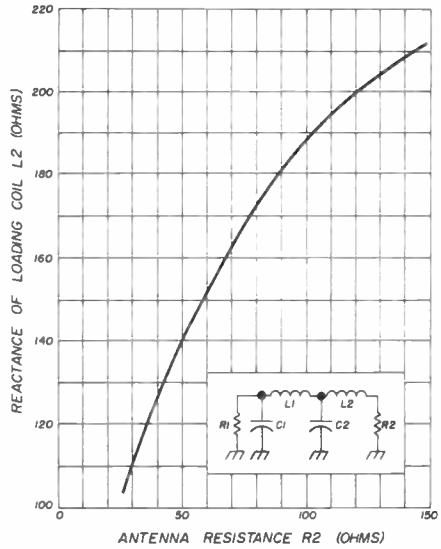

fig. 19. Reactance of the loading coil L2 as a function of antenna resistance (R2) for pi-L networks.
8. Find the reactance of the loading coil (L2) from fig. 19. In this case, the reactance is about 140 ohms.